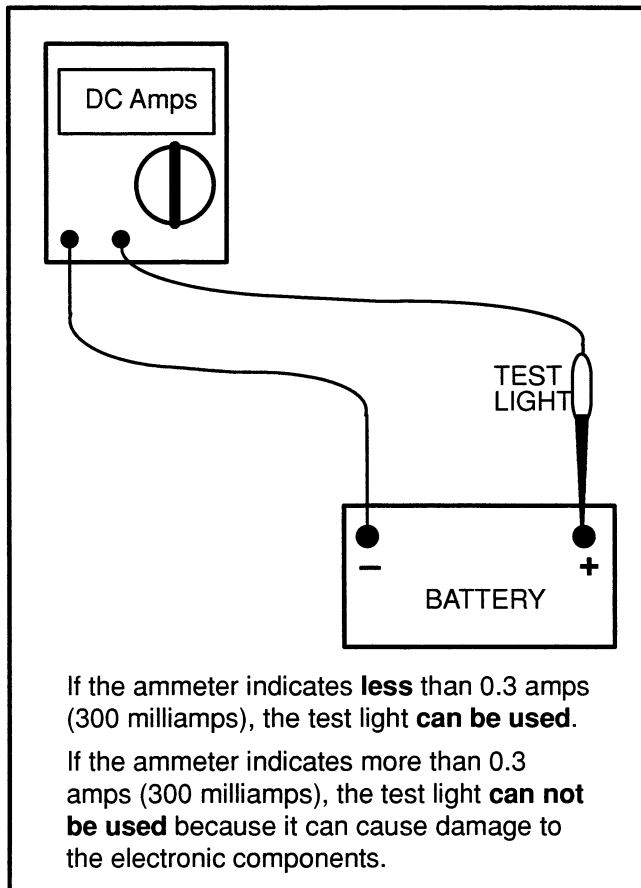

FIGURE 10. CURRENT FLOW TEST FOR A TEST LIGHT
- When a test light is used in troubleshooting, the test light must have less than 0.3 amps (300 milliamps) of maximum current flow. A test for a correct test light is shown in FIGURE 10.
- Test light that has a low current draw as described in FIGURE 10.